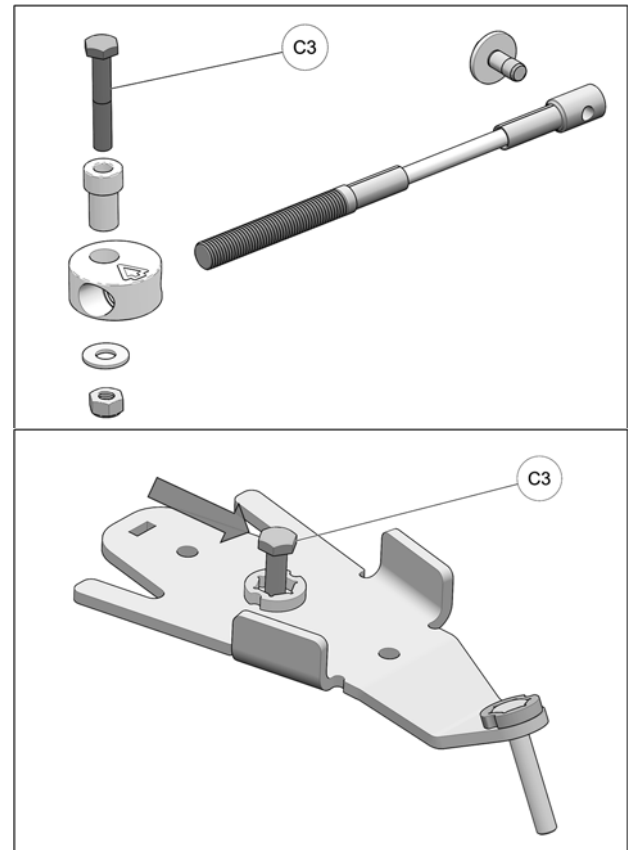

Fig. 15
5. Retrieve the M10x60mm bolt (C3) from the Steering Limiter assembly and insert it in the front anchor bracket as shown in Fig. 15